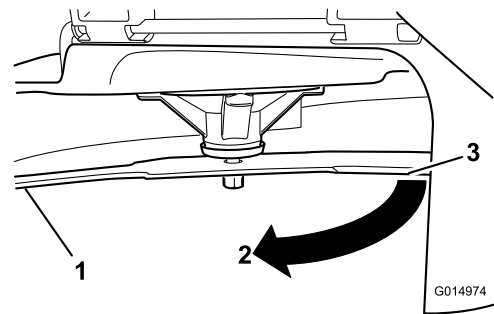

Figure 59
3. Measured distance between blade and the surface (A)
4. Rotate the same blade 180 degrees so that the opposing cutting edge is now in the same position (Figure 59).